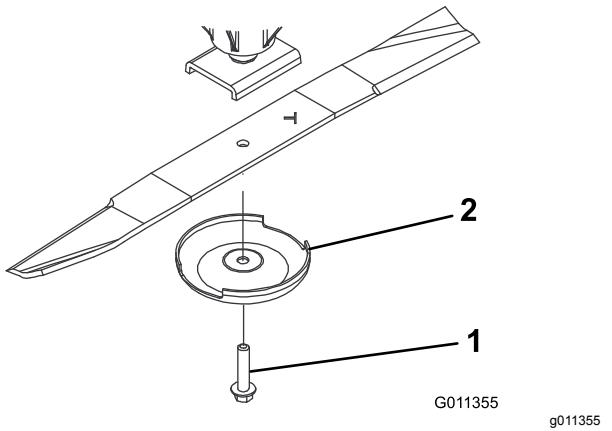

Figure 68
2. Grasp the end of the blade using a rag or thickly padded glove. Remove the blade bolt, anti-scalp cup, and blade from the spindle shaft (Figure 68).
3. Install the blade, sail facing toward the cutting deck, with the anti-scalp cup and blade bolt (Figure 68). Tighten blade bolt to 115–149 N·m (85–110 ft-lb).